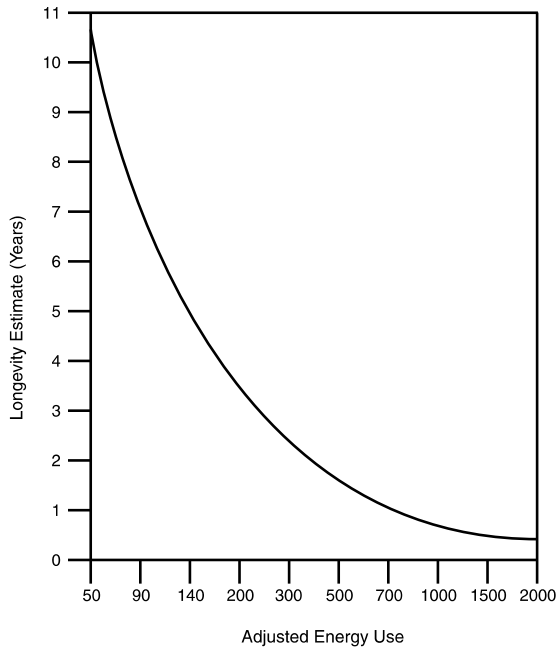

Figure 4. Kinetra Neurostimulator longevity estimates (years) for energy use (EU).
9. Finally, take the adjusted Energy Use value and determine the estimated battery longevity in years from Figure 4.